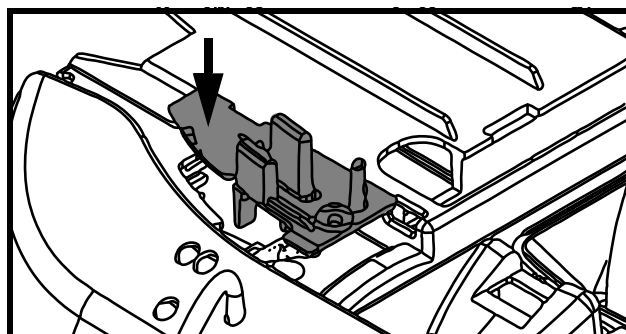

Fig. 37
- 9) Reinstall the alternate buttons by snapping it into the opening (see Fig. 37).